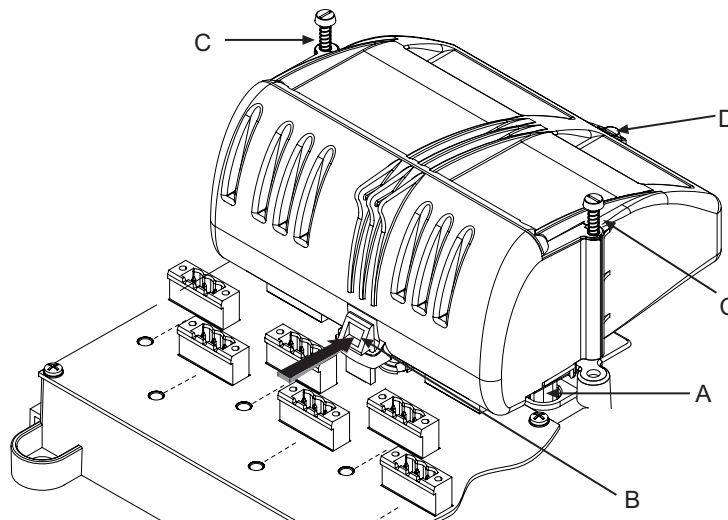

Figure 5.1 - Fieldbus Barrier module – fitting & removal
5.2.2.1 Removing a Fieldbus Barrier module (refer to Figure 5.1)
- b) Slowly pull the 9377-FB-R Fieldbus Barrier module away from its connections on the carrier until the safety retaining clip (B) stops further removal.
5.2.2.2 Fitting a Fieldbus Barrier module (refer to Figure 5.1)